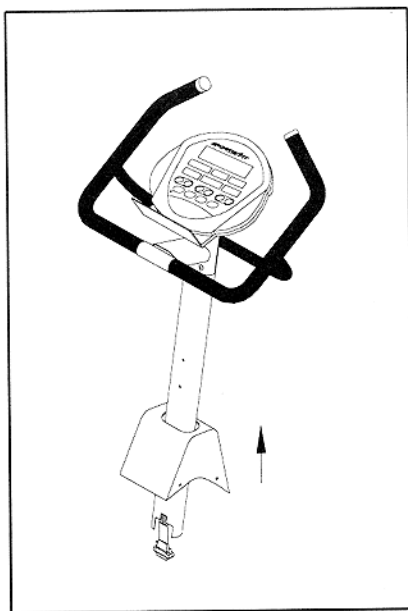

Fig.1
3. Slip the post cover onto the upright post. (see Fig 1)